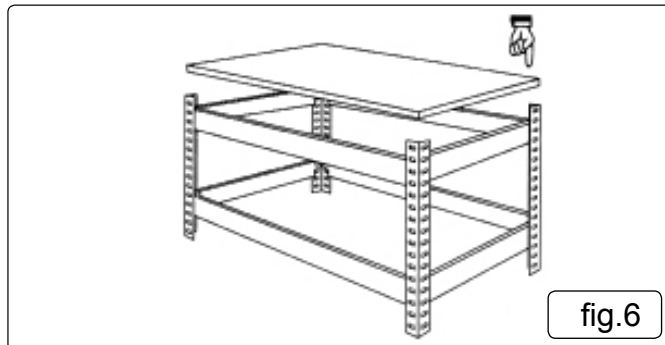

fig.6
5.7. See fig.6. Move the frame into position in the chosen area. Place the 5 MDF shelves onto the shelf supports.